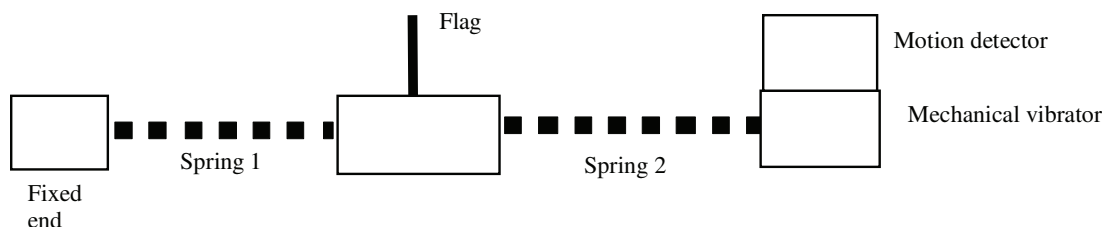

Figure 11.1:
1. Set up the system on the air track as the diagram on Figure 11.1 indicates. We will be using a two-spring system with the springs connected on either side of the glider